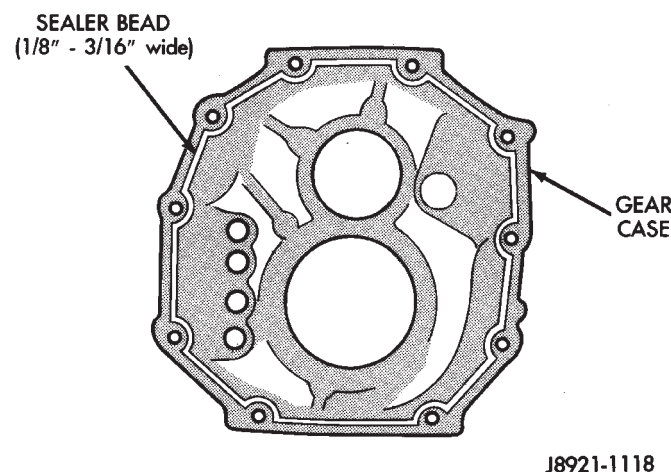

Fig. 33 Apply Sealer to Transmission Gear Case
(1) Remove any residual sealer from transmission case, intermediate plate, and adapter/extension housing.
(2) Apply a 1/8 to 3/16 inch wide bead of Threebond® Liquid Gasket TB1281, P/N 83504038, as shown, making sure to keep sealer bead to inside of bolt holes (Fig. 33).